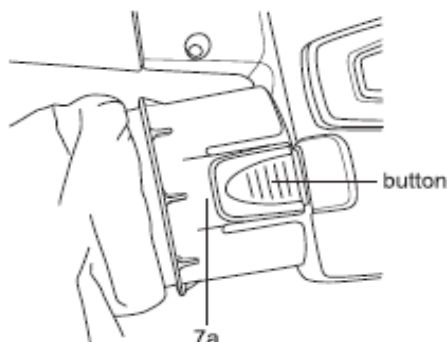

Fig. 4
Align the connector (7a) with the outlet nozzle (6) and insert it in place. To detach, press the buttons on both side deeply meanwhile pull it away. (Fig. 4)